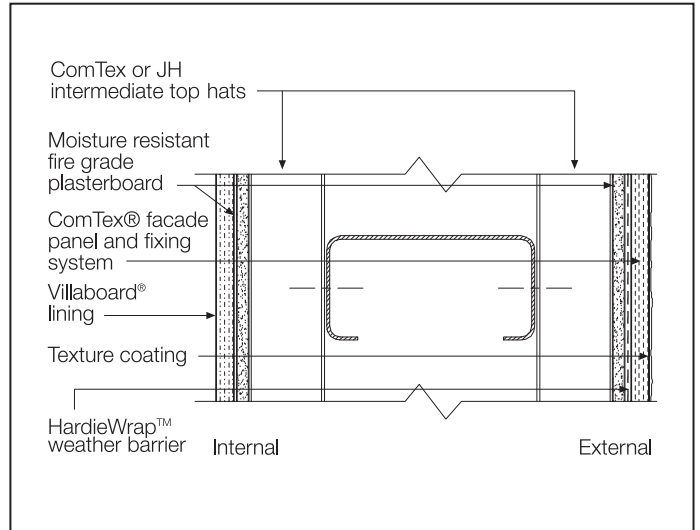

FIGURE 25 FIRE RATED COMTEX FACADE PANEL AND FIXING SYSTEM
2. Provide a drip edge at least 30mm out from the facade face. (see Figure 25 and 43).